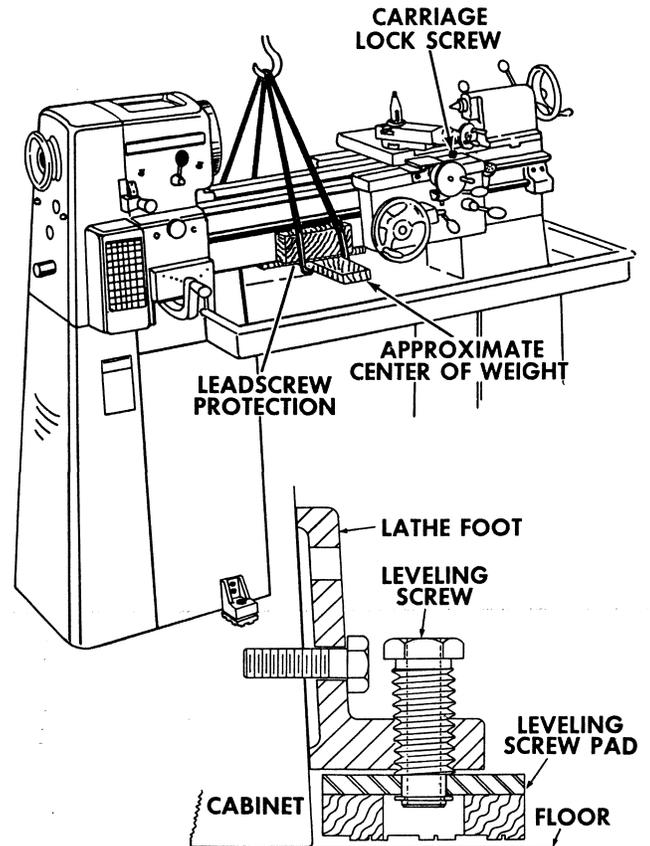

Figure 1
**CAUTION:** *DO NOT LOWER LEVELING SCREW PADS UNTIL LATHE IS READY TO BE LEVELED -- refer to figure 1.*
When using a sling -- clean bed ways, move tailstock to the right-hand end of the bed and lock it in place. To protect lead screw and bed, place a 3/4" thick hardwood board under approximate center of weight load, insert sling as shown in figure 1, and raise machine about one-inch off floor. Make any necessary adjustments for balance by moving carriage along bed. -- Before moving carriage, loosen lock screw -- located on top right side of the carriage.